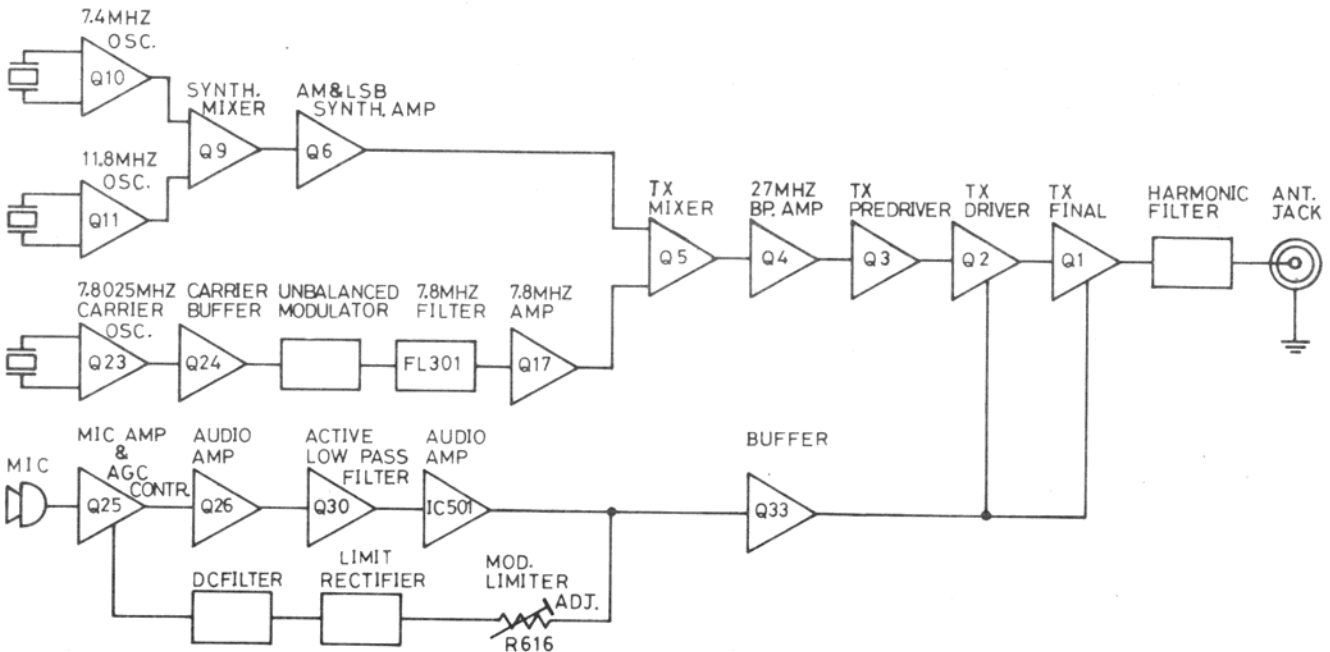

Figure 2-3 AM Transmitter Block Diagram
2.3 AM TRANSMITTER (Refer to Figure 2-3)